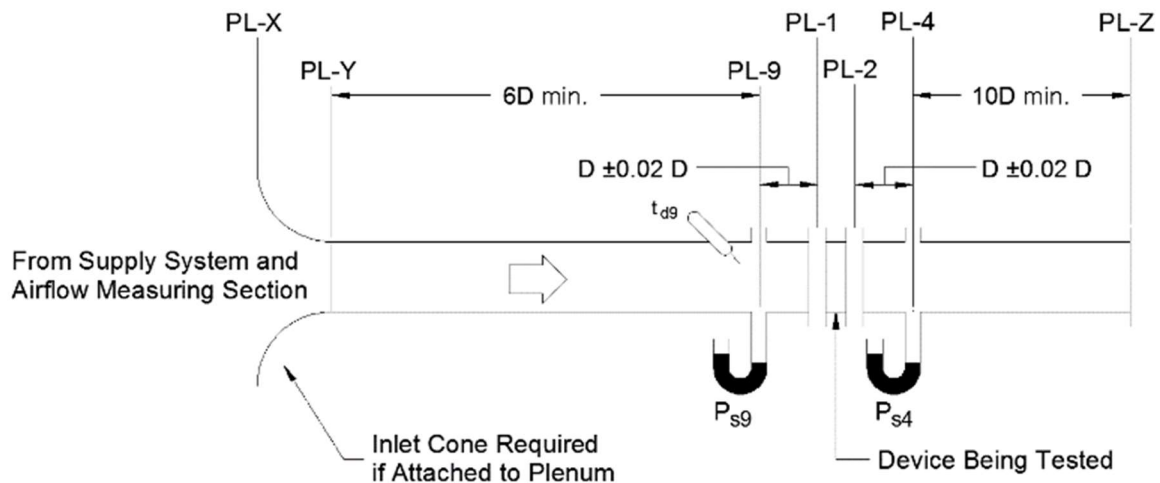

FIGURE 5.3 Test Damper Setup with Inlet and Outlet Ducts
- Tested for air performance in accordance with ANSI/AMCA500-D, Figure 5.3